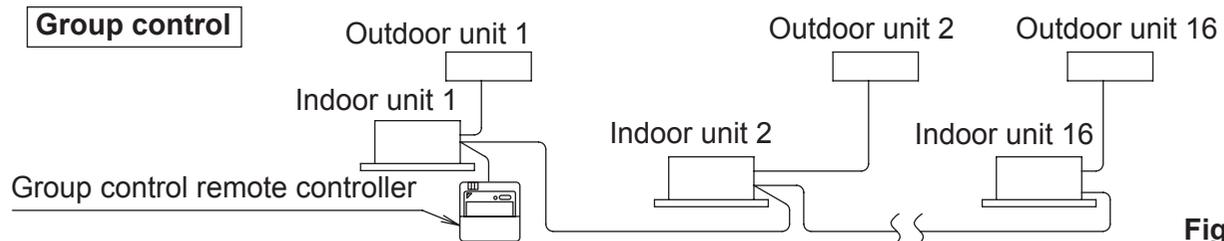

Fig. 31
- **Group control:** 1 remote controller controls up to 16 indoor units. (All indoor units operate according to the remote controller) (Refer to Fig. 31)
Group control: 1 remote controller controls up to 16 indoor units. (All indoor units operate according to the remote controller) (Refer to Fig. 31)
- (1) Remove the control box lid. (See “8. ELECTRIC WIRING WORK”.)
- (2) **Cross-wire the terminal block for remote controller (P₁ P₂) inside the control box. (There is no polarity.) (Refer to Fig. 31 and Table 2)**